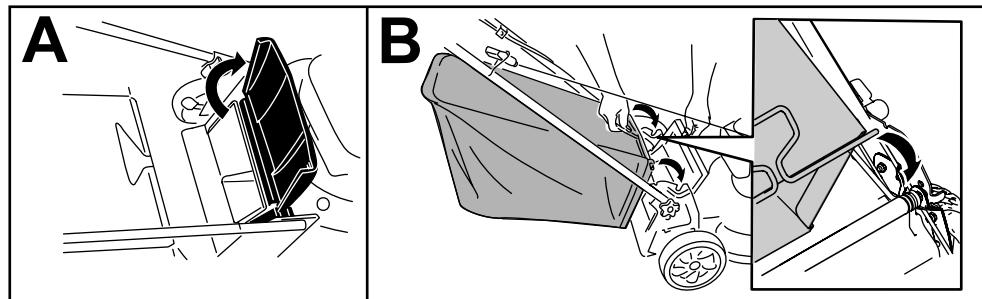

Figure 16
1. Raise and hold up the rear deflector (A of Figure 16).
2. Install the grass bag, ensuring that the pins on the bag rest in the notches on the handle (B of Figure 16).
**Note:** If the grass bag is on the machine, remove it before rear-discharging the clippings; refer to Removing the Grass Bag \(page 11\). The bag-on-demand lever should be in the BAGGING position as shown in Figure 16.